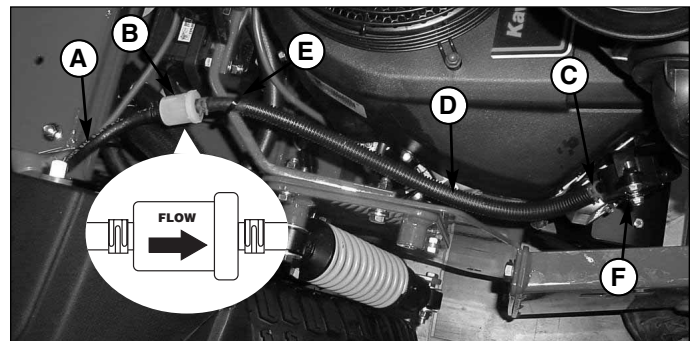

Figure 1. Fuel Hose Routing
3. Reconnect the fuel hoses with the 16" length to the fuel pump and the 6" length to the tank (Figure 1).
4. Remove and reinstall the fuel filter with the flow arrow pointing towards the fuel pump (see insert, Figure 1).